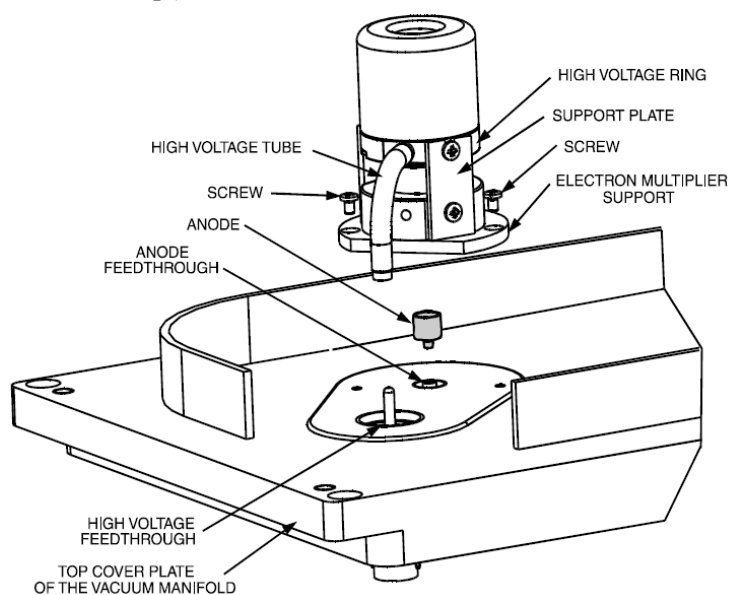

Figure 15. Exploded view of the electron multiplier, showing the anode.
- 8.4.4. With an Allen wrench, remove the two socket-head screws that hold the electron multiplier support to the top cover plate of the vacuum manifold. See Figure 15.